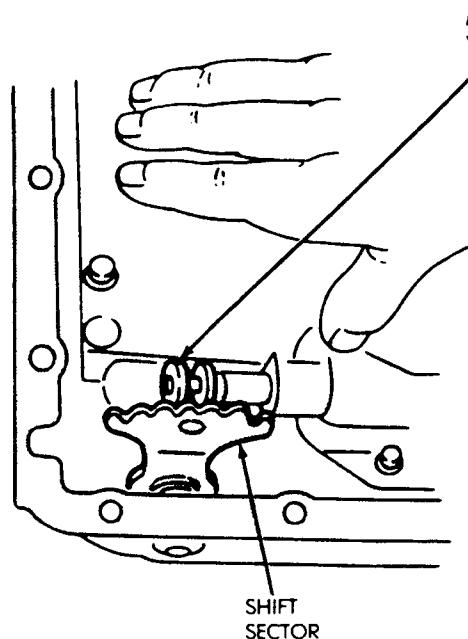

**Fig. 16 Removing/Installing Valve Body Check Ball And Spring**
(8) Remove valve body and check ball and spring (Fig. 16).
- (2) Install check ball and spring (Fig. 16).
- (3) Position accumulator springs and spacers on valve body.